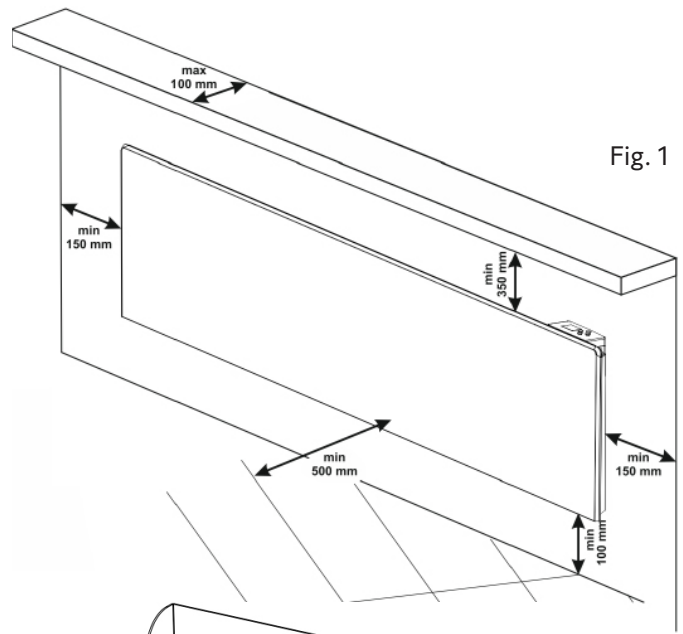
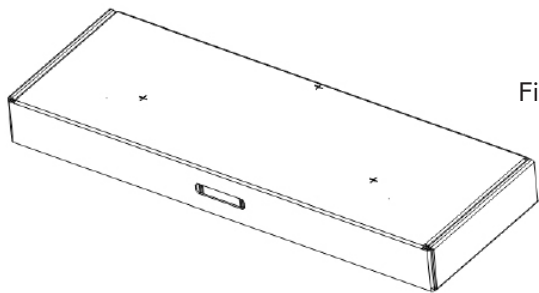
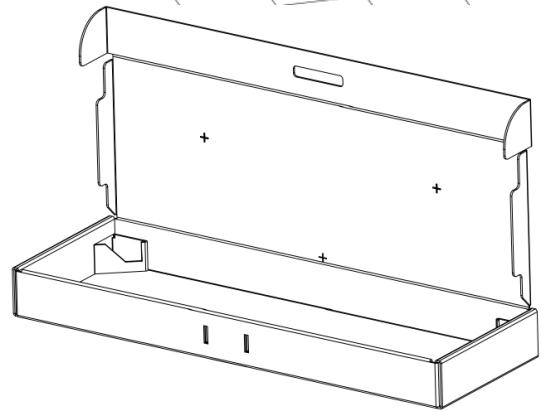

Fig. 1
Fig. 2
Fig. 3
- Select the location and mark up its three points for drilling, then drill using an  $\varnothing 6$  mm drill bit at the marked places on the wall. (Fig. 1). As an aid, use the prepared holes in the packaging, marked + (Fig. 2).
- Select the position on the wall according to the dimensions stated in Figure 1. Open the box and place it against the wall (Fig. 3). Then transfer the marked holes to the wall.